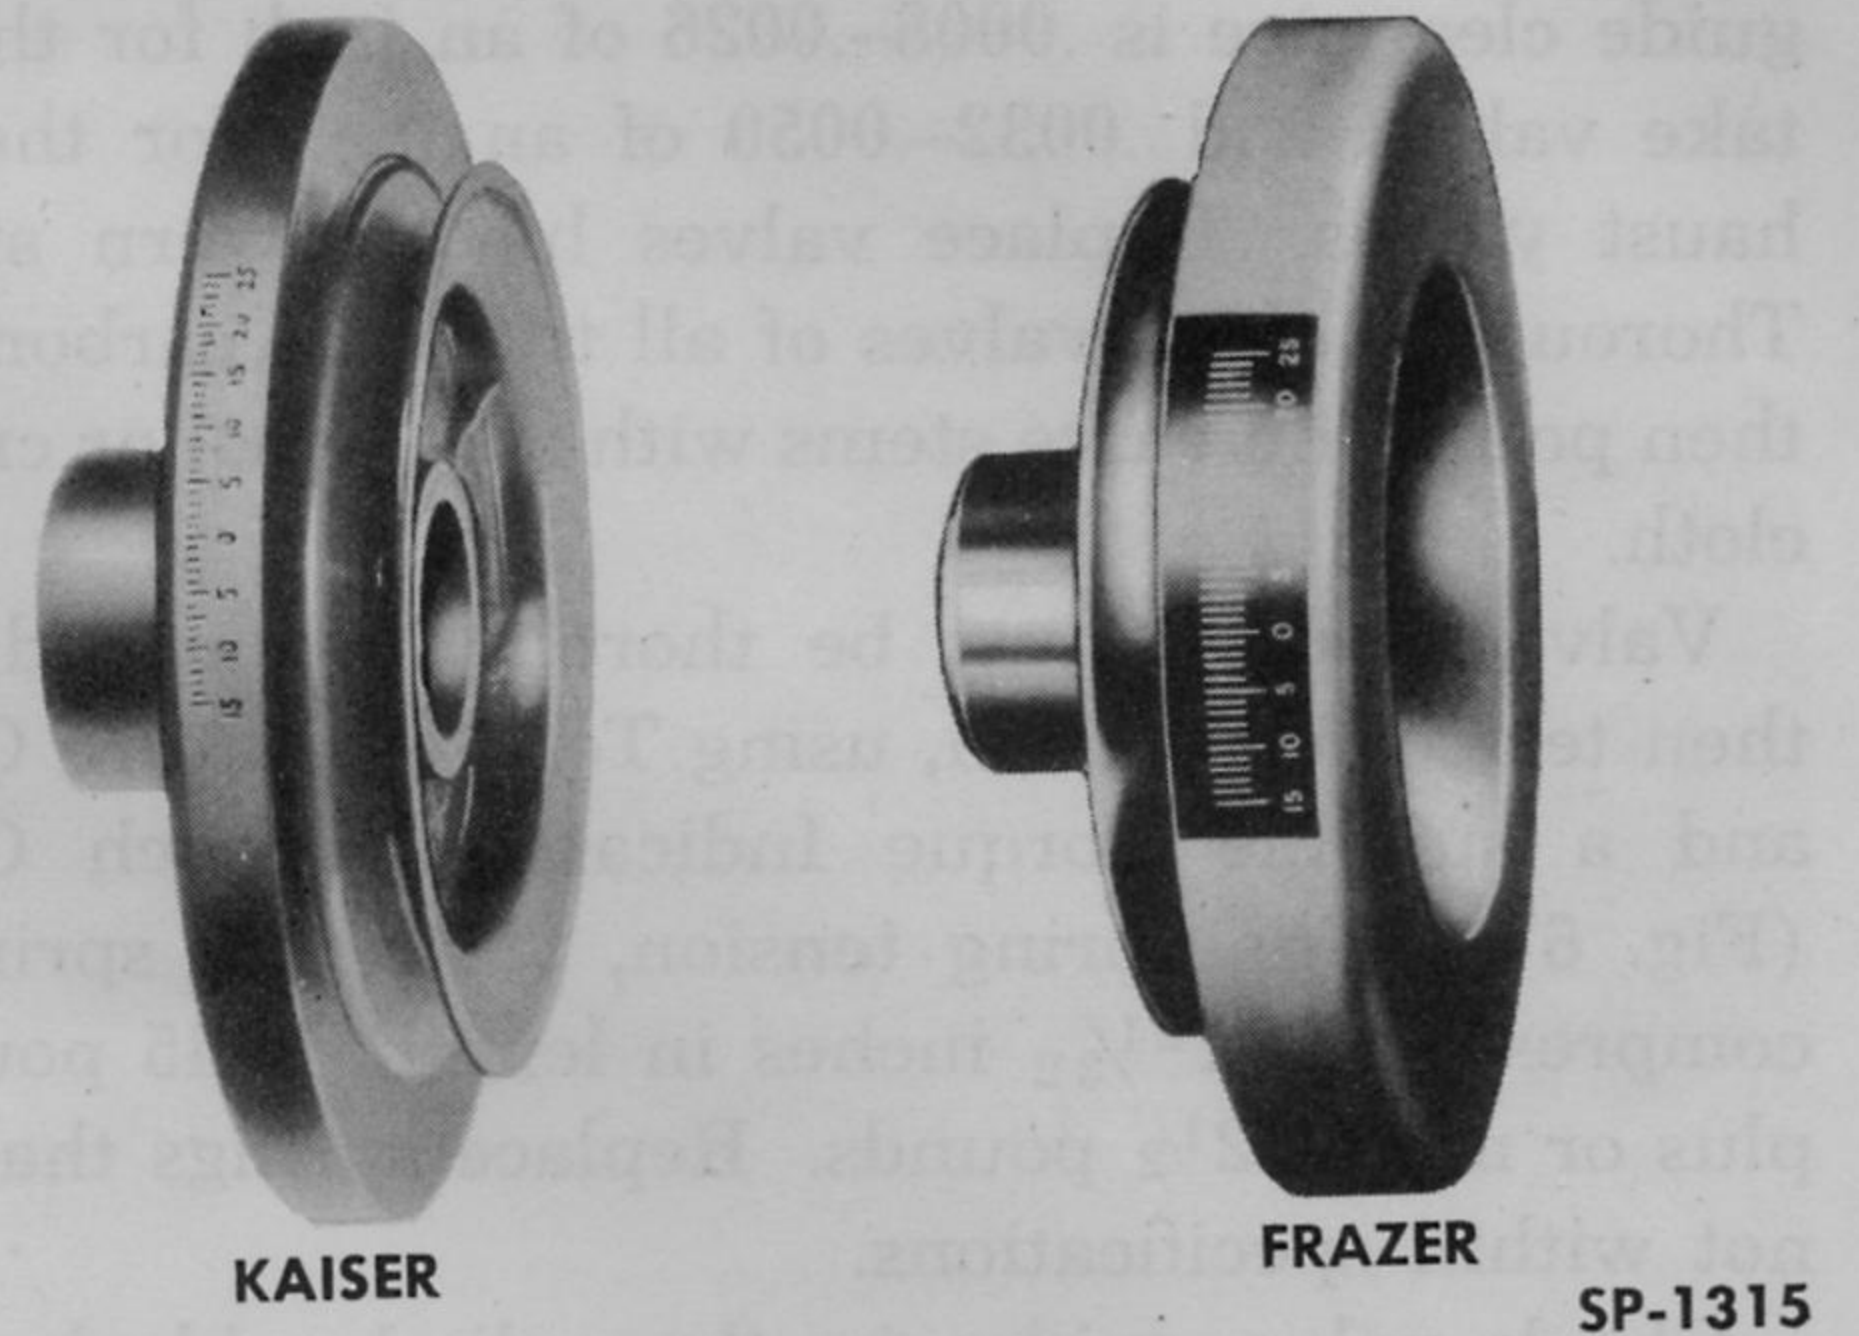

Fig. 66—Crankshaft Vibration Dampers
j. VIBRATION DAMPER. The vibration damper is mounted on the front end of the crankshaft. The damper is designed to reduce the amplitude of torsional vibration set up in the engine. Two types of dampers are used (Fig. 66), one having the pulley at the rear of the damper for Frazer models. The other type has the pulley in front of the damper for Kaiser models. A distorted, broken or otherwise damaged vibration damper must be replaced.